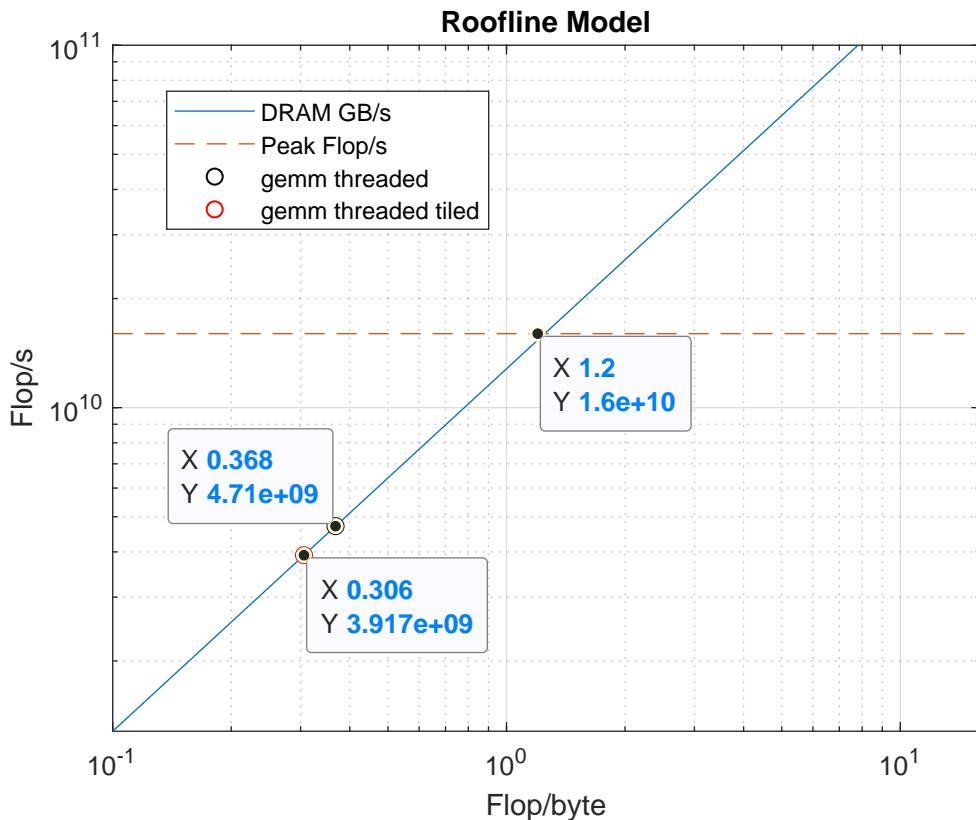

Figure 1: Roofline model for the `gemm` (general Matrix Multiplication) test on a full-system ARMv8 big.LITTLE gem5 simulation.
Arithmetic Intensity (AI) is a measure of Flops per byte of DRAM traffic (reads and writes). To estimate the AI of the programs in question, the stats files were examined. The number of bytes read and written by the memory controller were found directly. The number of floating point operations was estimated using the `FloatMultAcc` parameter in the stats file. This was chosen as it is consistent across all four cores in the system, whereas various other floating point operation were only performed on a single core. The values can be seen in table. 2. The AI for the programs is plotted relative to the roofline model in fig. 1.